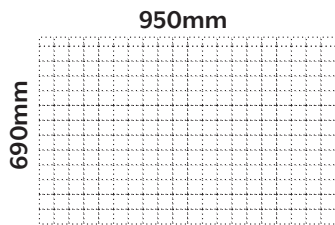

FIGURE 1
1. Prepare bench top cut out using the template provided, as shown below in Figure 1. Use a fine point marker; then make your cut as accurately as possible.